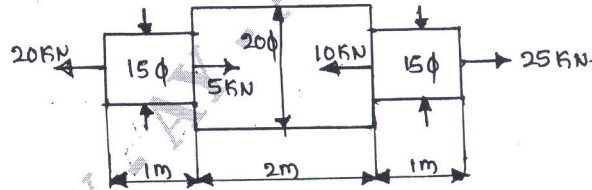

Fig. Q1(c)
- c. A steel bar ABCD 4m long subjected to forces as shown in Fig. Q1(c). Find the elongation of bar. Take E for the steel as 200 GPa.    (08 Marks)